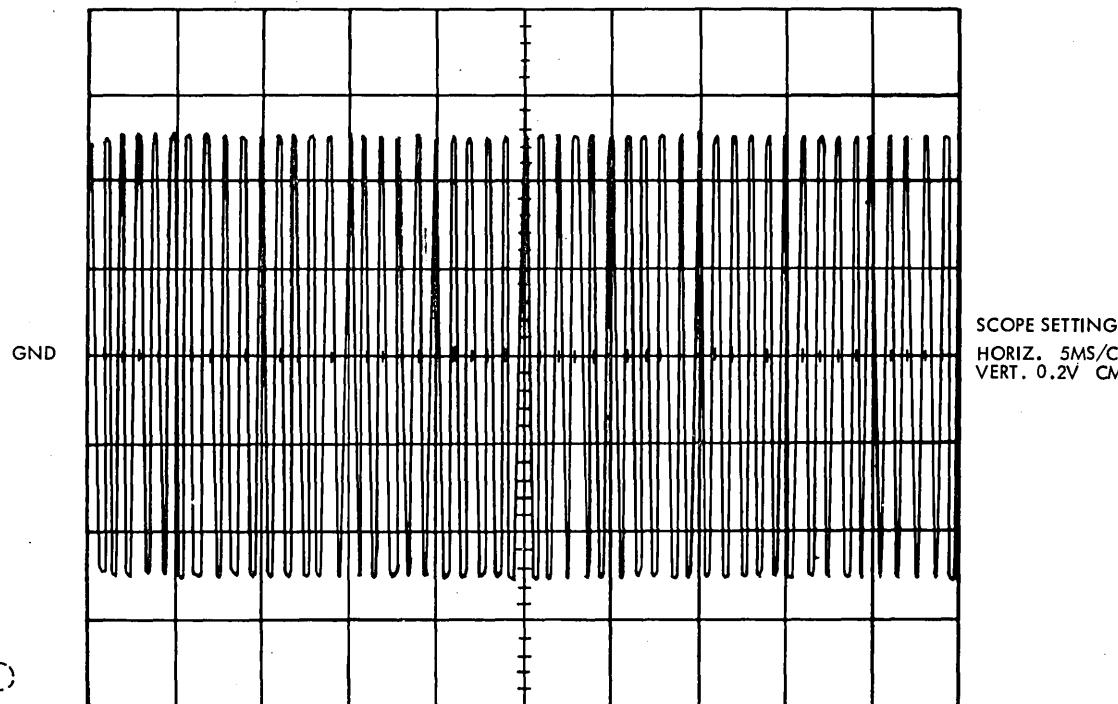

FIGURE LE 3-2. POSITION TRANSDUCER WAVEFORM
7. If amplitude of waveform is 1.0 ± 0.1 volts peak to peak (see Figure LE 3-2), do not make any adjustment and proceed to Step 9, if not proceed to Step 8.
14. Amplitude of waveform must be 5 volts +0.6 volts or -0.2 volts peak to peak. If not, repeat Steps 4 through 10 again. If adjustment cannot be performed replace AGC Preamp. Waveform will be similar to Figure LE 3-2 except for difference in amplitude.